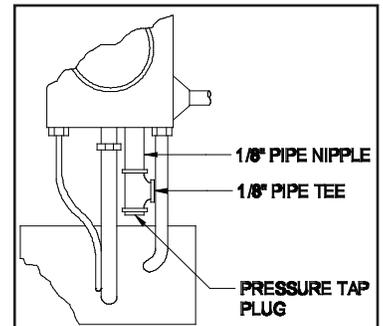

Figure 6
2. Replace the pressure tap plug with the 1/8" pipe nipple and pipe tee. Install pressure tap plug at the bottom of the pipe tee. (See Figure 6)